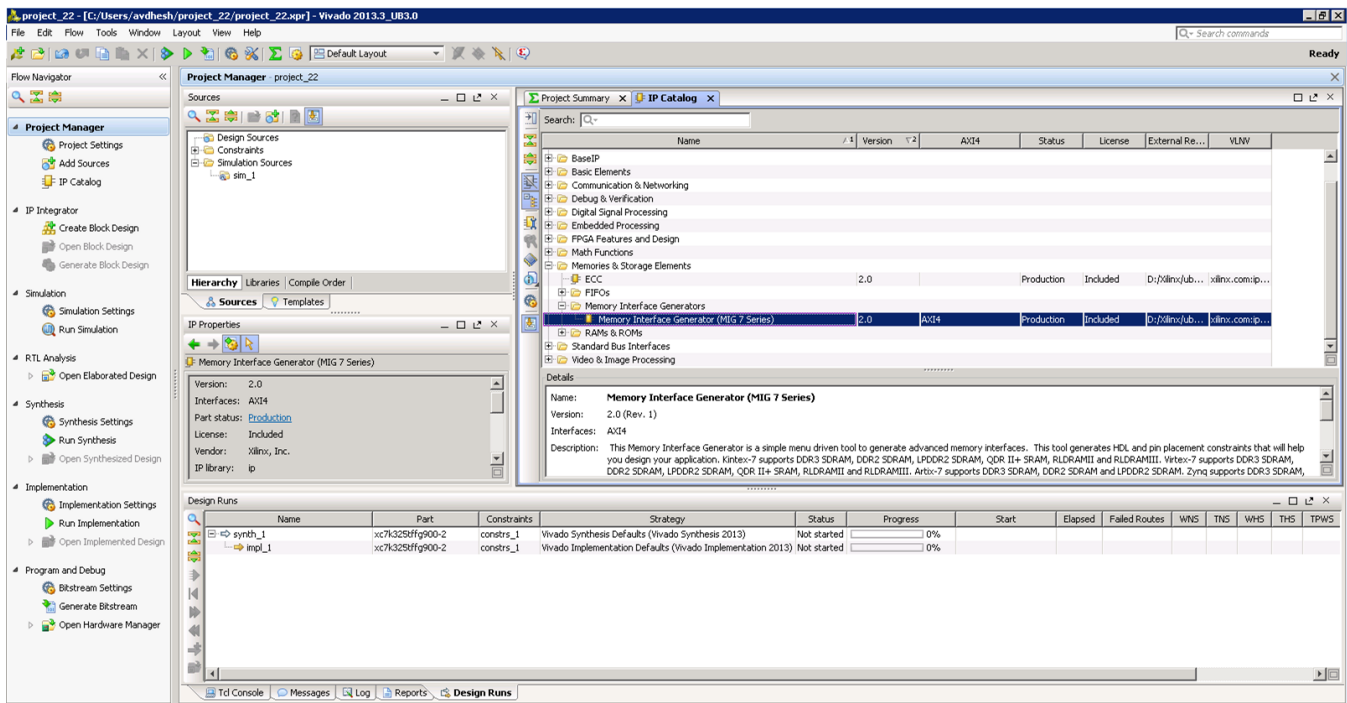

Figure 5-12: IP Catalog Window – Memory Interface Generator
11. Click **IP Catalog** on the **Project Manager** window to open the IP catalog window. The Vivado IP catalog window appears on the right side panel (see Figure 5-12).
12. The MIG tool exists in the **Memories & Storage Elements > Memory Interface Generators** section of the IP catalog window (Figure 5-12) or you can search from the Search tool bar for the string "MIG."